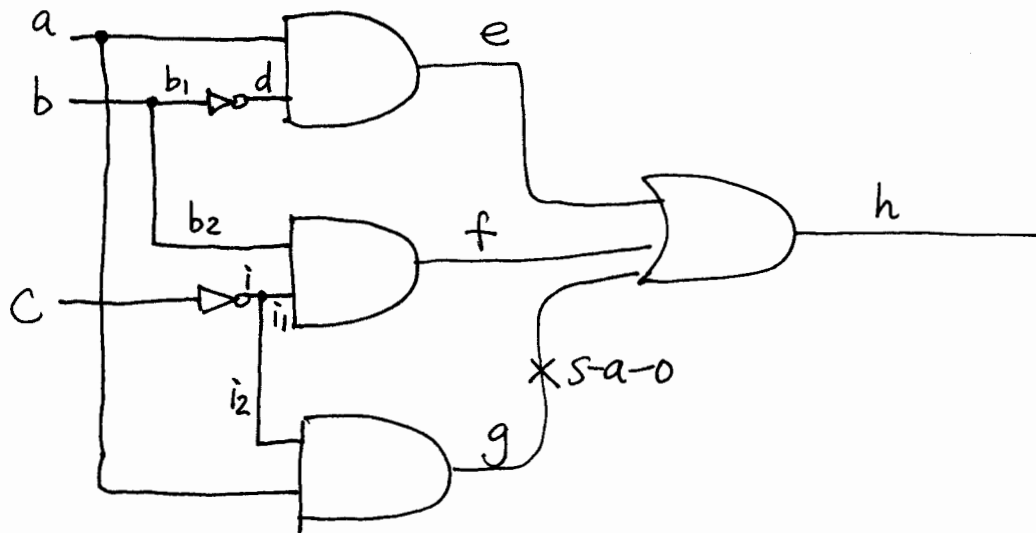

Fig. 1.
2. Given a circuit shown in Fig. 1, show the decision trees generated by D-algorithm and PODEM for g stuck-at 0, during the test generation process. (17%)